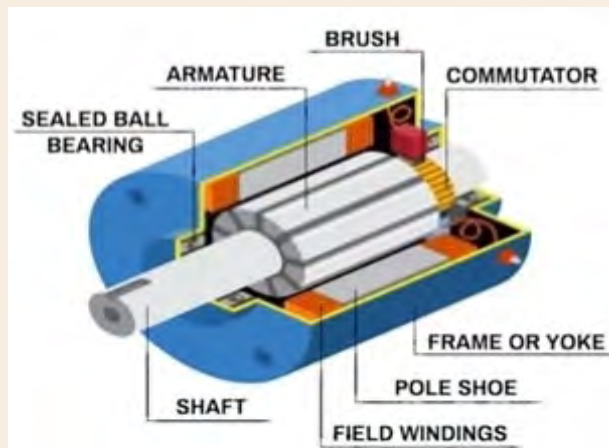

Figure 1.4.6: Model of DC generator
1. Draw a labelled diagram or model of a (DC generator *Figure 1.4.6*) showing important parts such as the armature, field coils, commutator, and brushes.